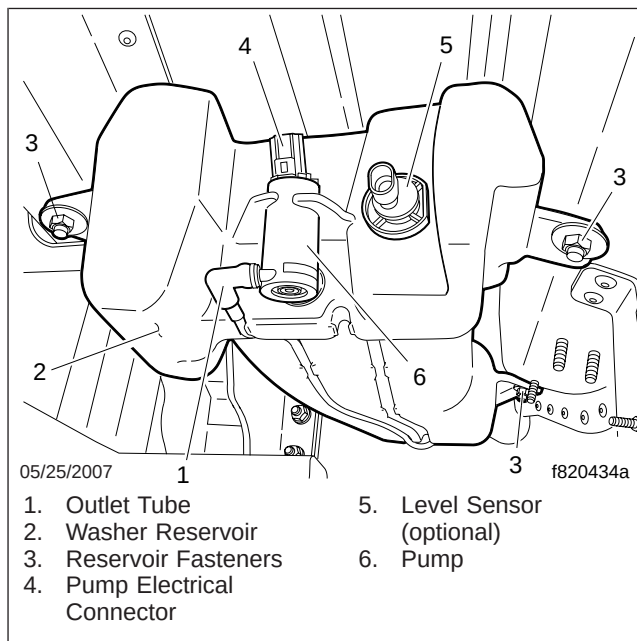

Fig. 1, Washer Reservoir
4. Disconnect the wiring from the pump and, if so equipped, the fluid level sensor; see **Fig. 1**.